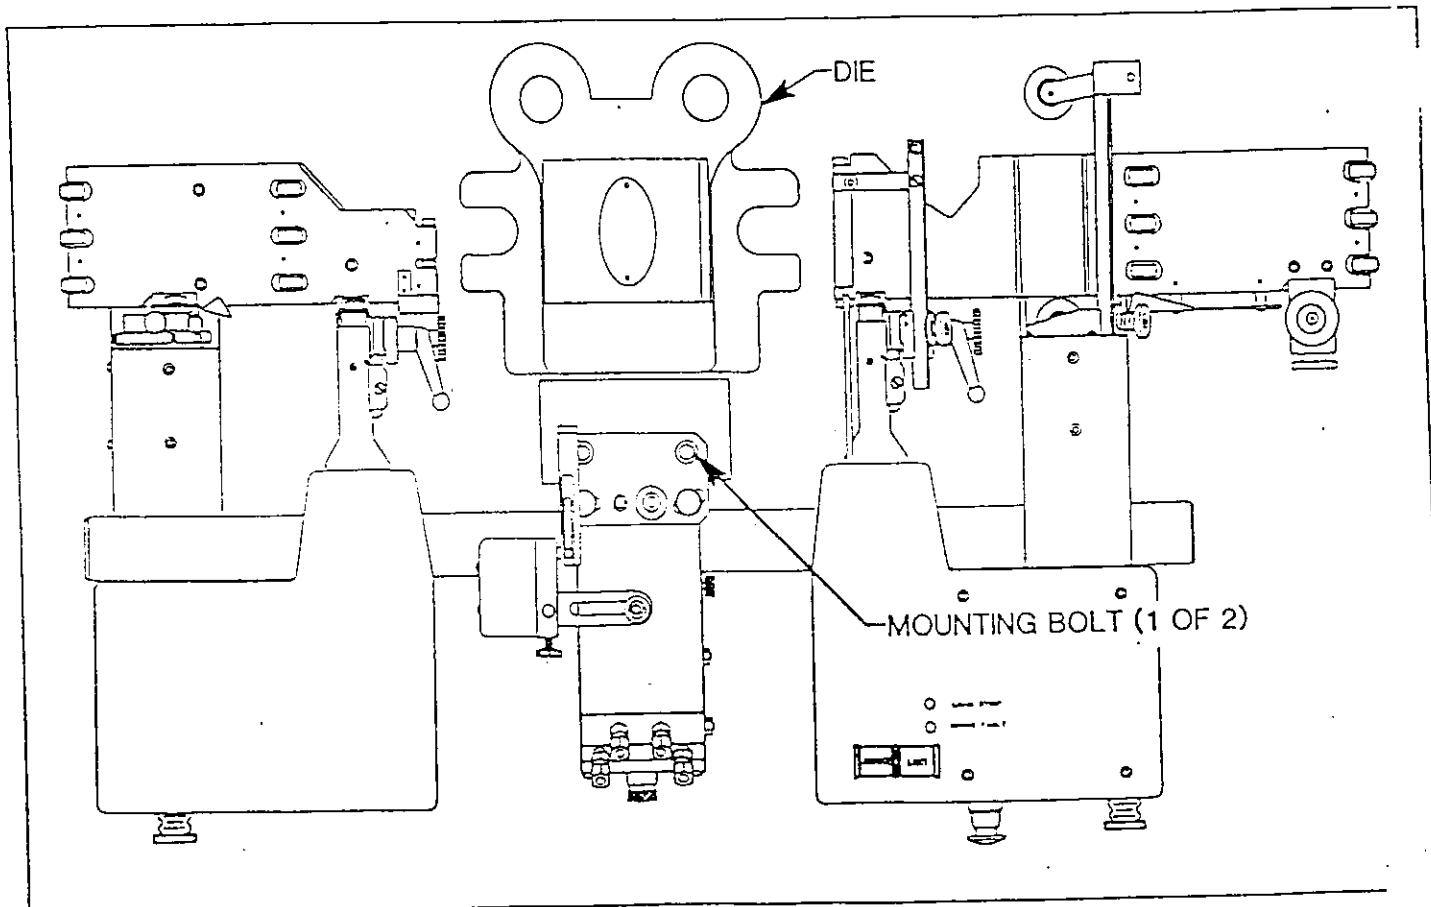

Figure 1-16
STEP 14: Remove strip feed from test stand, mount strip feed on lower die shoe, and secure it in place with 5/16"-18 bolts from test stand. Do not tighten bolts yet. See Figure 1-16.